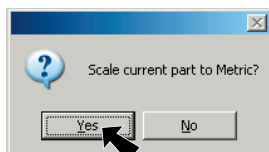

Fig. 5
- Step 5. Click **Yes** to scale part to Metric, **Fig. 5**.